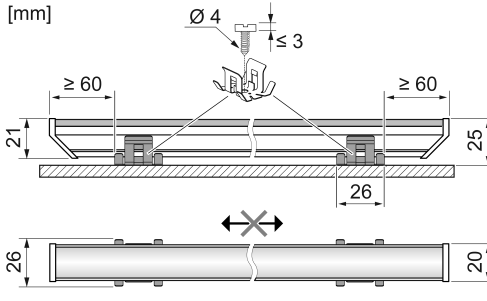
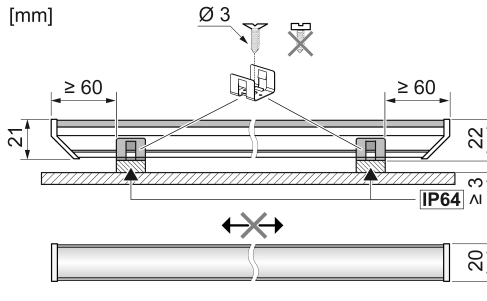

Figure 2: Mounting with bracket 81081710
Figure 3: Mounting with bracket 81081700
- To simplify mounting as much as possible, we recommend using the retaining bracket 81081710 (Figure 2). The retaining bracket 81081700 is available as an option for particularly small installation environments. However, this also requires the use of additional spacers (Figure 3).